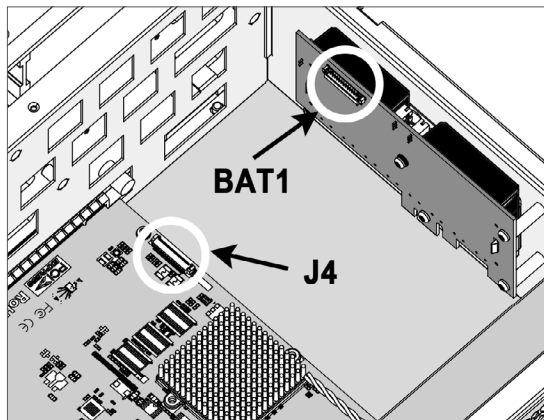

Figure B-11, Secure the Battery Module
3. Insert the cable connector into the **BAT1** (14-pin box header battery connector on ARC-1883-BAT/CAP module), and also insert another side of the cable connector into the **J4** (14-pin box header battery connector on ARC-5088 backplane), as shown in Figure B-11.